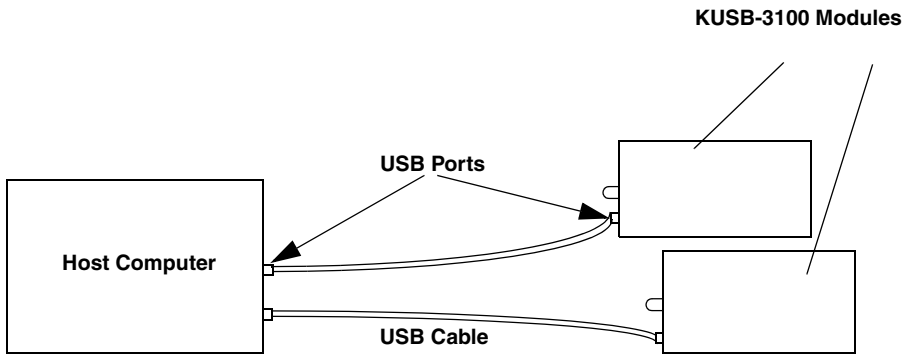

Figure 2: Attaching the Module to the Host Computer
2. Attach the other end of the USB cable to one of the USB ports on the host computer, as shown in Figure 2.